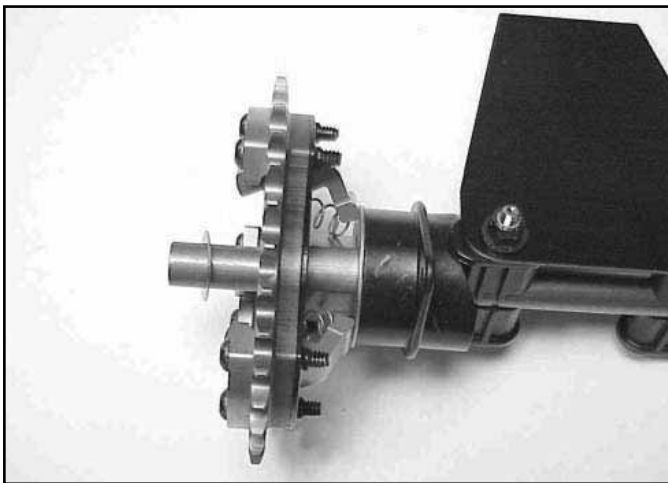

Fig 201
12. Install flat washer (Fig. 201).